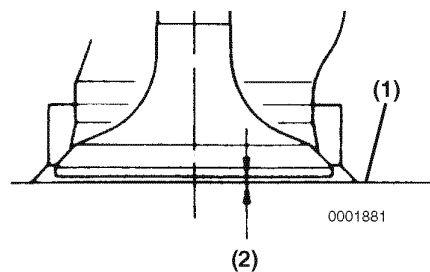

Figure 8-9
Insert the valves into their original locations until they are fully seated. Use a depth micrometer to measure the distance (**Figure 8-9, (2)**) between the cylinder head surface (**Figure 8-9, (1)**) and the combustion surface of each exhaust and intake valve. See *Cylinder Head* on page 8-4 for the service limit. Record the measurement.